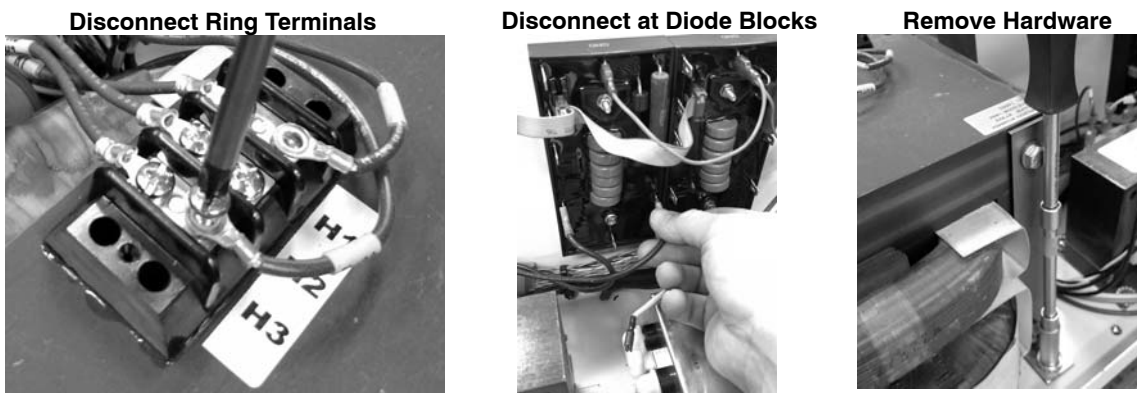

Figure 3 Removing Transformer
2. See Figure 3. Remove transformer for access to contactor.